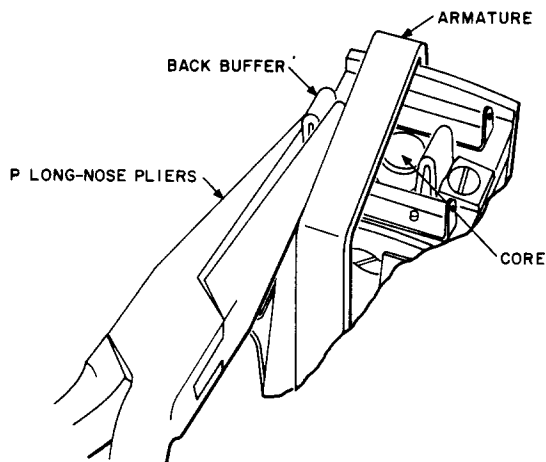

Fig. 7 — Method of Adjusting Armature Position (85F-Type Relay)
3.09 Armature Position (Reqt 2.09): If the armature in the unoperated position is not back of the edge of the core, adjust the back buffer away from the armature with the P long-nose pliers as shown in Fig. 7. Exercise care to keep the armature very close to the core since otherwise the relay probably will fail to meet its electrical operate requirement.